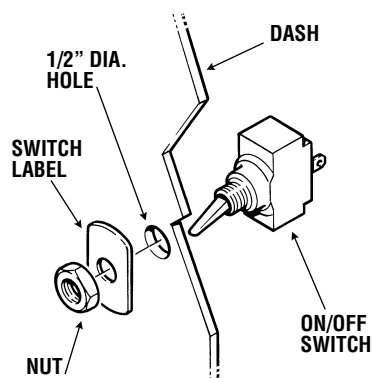

Figure 2-29. ON/OFF Switch Assembly
2. Drill a 1/2" diameter hole through the dash for the switch. Make sure you have clearance behind the dash for the switch wires and connections. Install the switch as per the diagram. (Figure 2-29.)